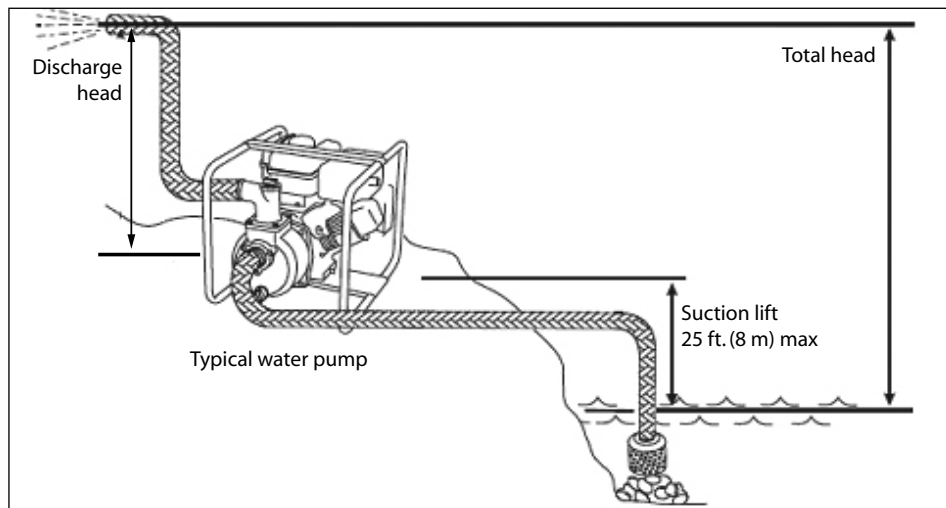

FIGURE 1
Use this pump for water only, where the vertical suction lift from the water level is 25 ft. (8m) or less. Head refers to the height of a column of water that can be delivered by the discharge of the pump (Figure 1). Suction lift is the vertical distance between the center of the pump and the surface of the liquid on the suction side of the pump. Discharge head is the vertical distance between the pump's discharge port and the point of discharge. Total head is the sum of the suction head and
- LOCATION:** For permanent installation, put the pump in a clean, dry, and ventilated place (Figure 1).